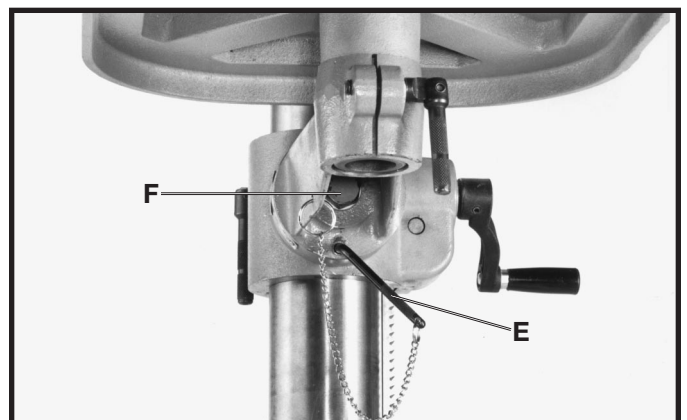

Fig. 27
3. The table can be tilted right or left by pulling out and removing table alignment pin (E) Fig. 27. Loosen table locking bolt (F), tilt table to the desired angle and tighten bolt (F). When returning table to the level position (90 degrees to the spindle), replace table alignment pin (E) and tighten bolt (F).